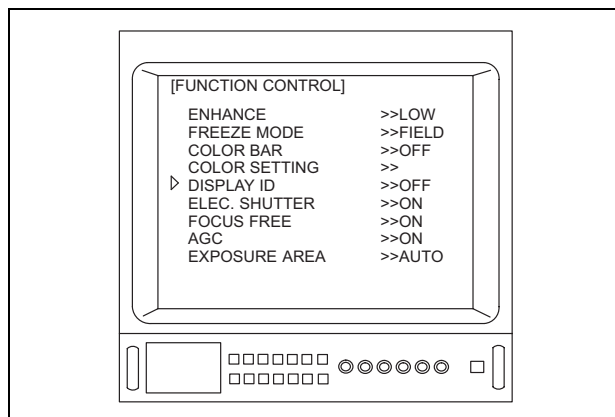

Figure 5.54
4. Depress the menu switches “” or “”, or the “” key on the keyboard to move the arrow “” to “DISPLAY ID” (see Figure 5.54).
- When the OTV-S7V is connected to the ENF-V, CYF-V/VA or HYF-V, “ELEC. SHUTTER” and “EXPOSURE AREA” shown in Figures 5.54 and/or 5.55 are not displayed.
- When the OTV-S7V is connected to the LTF-V3 or A500**A series, “EXPOSURE AREA” shown in Figures 5.54 and/or 5.55 is not displayed.
- When the OTV-S7V is connected to a camera head without the focus free function, or to a videoscope, “FOCUS FREE” shown in Figures 5.54 and/or 5.55 is not displayed.
- Depending upon the OTV-S7V’s settings, the menus shown in Figures 5.54 and/or 5.55 may appear different from those displayed on the video monitor.